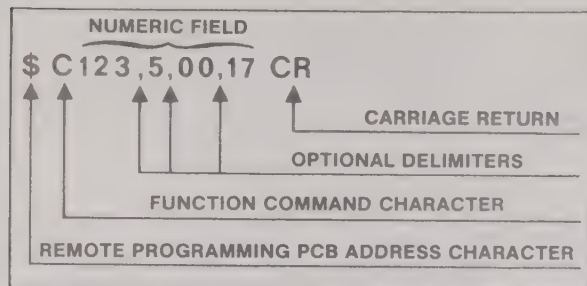

Figure 617-6. Command String Format Example
617-31. The format of the command string is shown in Figure 617-6. It consists of an address character, a command character, a numeric data field, and a carriage return terminator. The address character must correspond to that assigned (by #S2) to the interfaced Remote Programming PCB. An alphabetic command character follows to define the function to be programmed (scan control, output control, etc.). The commanded function is then programmed by a series of numeric characters. These characters represent a variable length numeric field and may contain a number of delimiters in the form of commas (,). After the numeric field is completed the command string is both terminated and executed by a carriage return (CR) character.